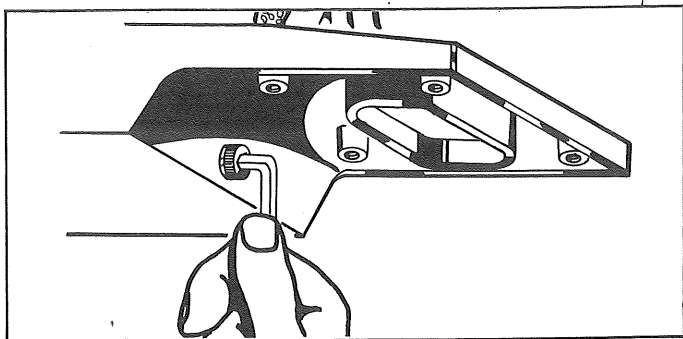

FIG. 31
- a. Remove the lower portion of the index handle by removing the four phillips head screws. This exposes the lower adjusting screw. Fig. 31.
- b. Use a 1/4" allen wrench to loosen all three adjusting screws. (DX and DN) Fig. 31 and 32.